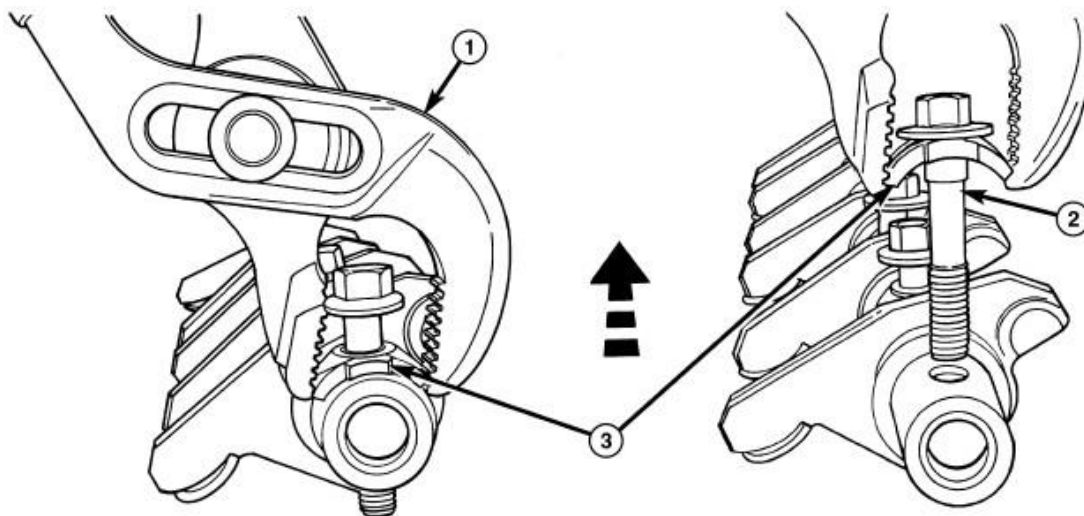

Fig. 72: Removing Rocker Arm Retainer
1. Using adjustable pliers, grip the edges of the retainer. Refer to **Fig. 72**.
2. Apply an upward force with a slight rocking motion until the retainer disengages from shaft. Refer to **Fig. 72**.